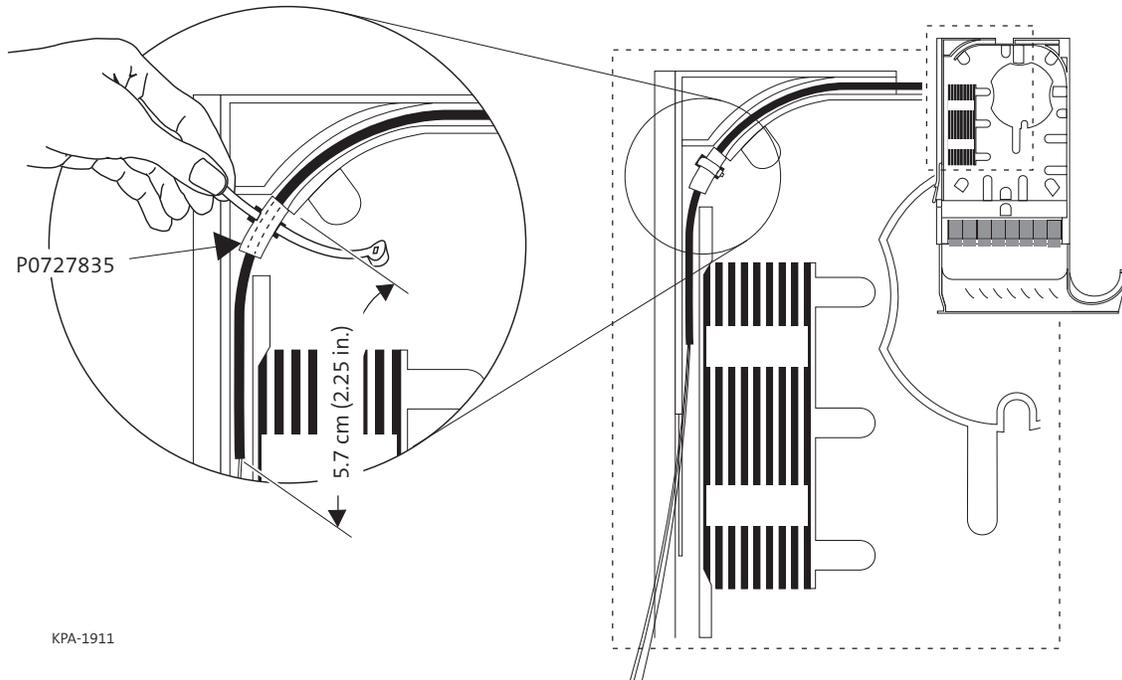

Figure 27
Step 1: Fasten the end of one tube inside the module (Figure 27).